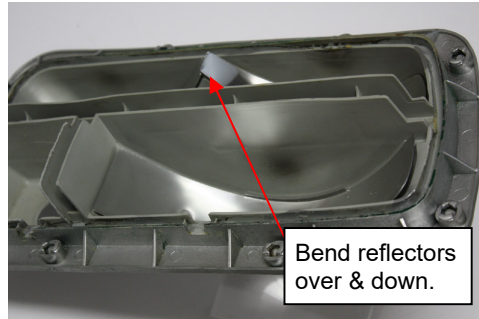

Figure 1
- 3.1. To provide room for the LED panels, the aluminum reflectors in the back housing must be modified so they do not protrude above the inner plastic surface. To accomplish this, bend the reflector edges over & downward in the upper lighting chambers (See Figure 1)